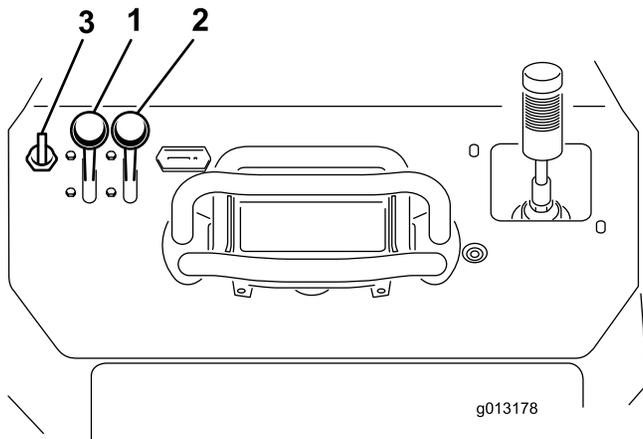

Figure 20
1. Move the throttle lever midway between the Slow and Fast positions (Figure 20).
2. Move the choke lever to the On position (Figure 20).
3. Turn the key to the On position (Figure 20). When the engine starts, release the key.
4. Gradually move the choke lever to the Off position (Figure 20). If the engine stalls or hesitates, engage the choke again until the engine warms up.
5. Move the throttle lever to the desired setting (Figure 20).
2. Move the throttle lever to the Slow position (Figure 20).
3. Turn the key off (Figure 20).